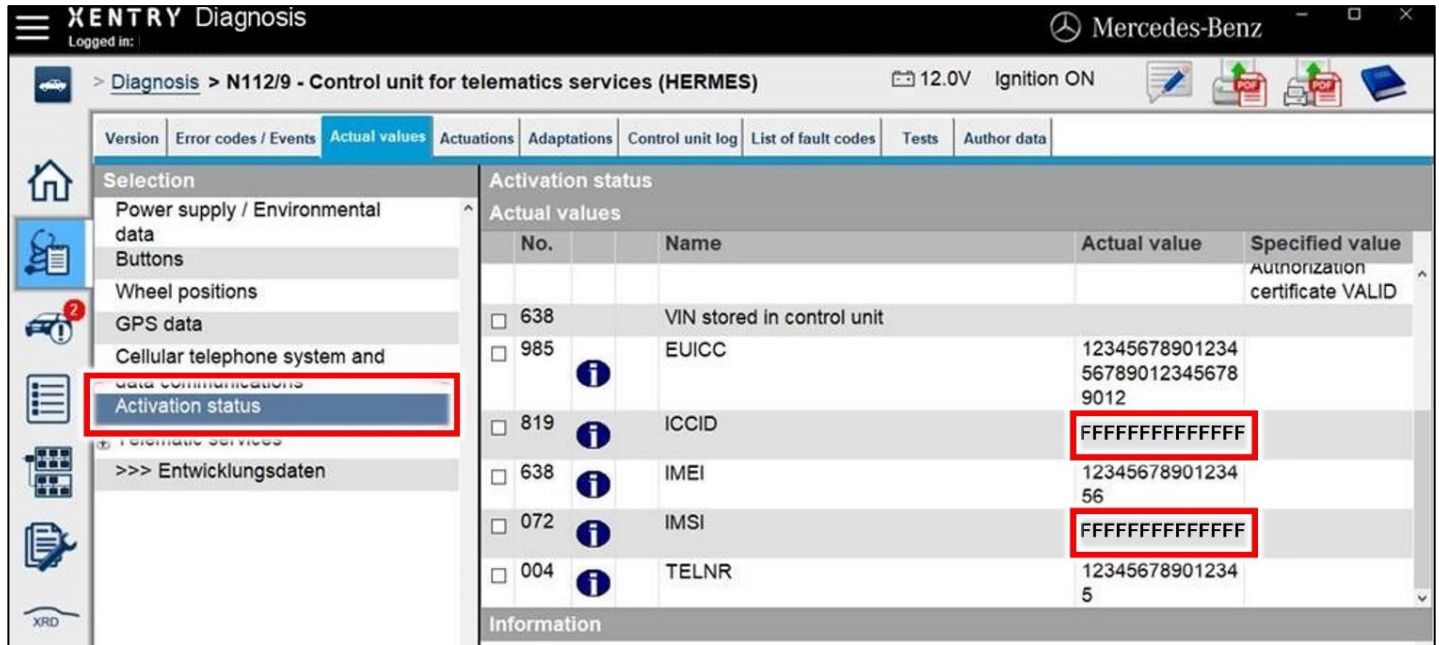

Figure 1
2. Check data of SIM card in HERMES control unit (N112/9) with XENTRY Diagnosis (**Figure 1**).
- If XENTRY Diagnosis displays “FFFFFFFFFFFFFF” for the “ICCID” and “IMSI” actual values (Figure 1): Carry out only **Work Procedures 3 and 4**.